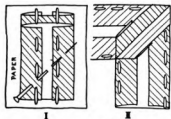

FIGURE 117
*Miter for Bias Tape* (Figure 117). — Mitering is a method of eliminating material at a corner or point. Fold together the two right sides of the bias, keeping the sides even (I). Baste on a piece